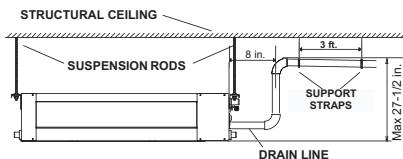

Fig. 20 —Condensate Piping
- The highest point in the condensate piping should be as close to the unit as possible. See Fig. 20.